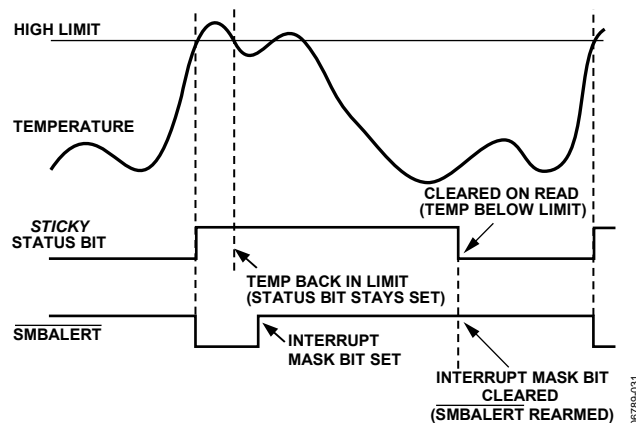

Figure 32. How Masking the Interrupt Source Affects $\overline{\text{SMBALERT}}$ Output
7. Periodically poll the status registers. If the interrupt status bit has cleared, reset the corresponding interrupt mask bit to 0. This causes the $\overline{\text{SMBALERT}}$ output and status bits to behave as shown in Figure 32.
The interrupt mask registers allow individual interrupt sources to be masked out to prevent $\overline{\text{SMBALERT}}$ interrupts. Note that masking an interrupt source prevents only the $\overline{\text{SMBALERT}}$ output from being asserted; the appropriate status bit is set normally see Figure 32. Full details of the status and mask registers associated with each measurement channel are detailed in Table 20 and Table 24.